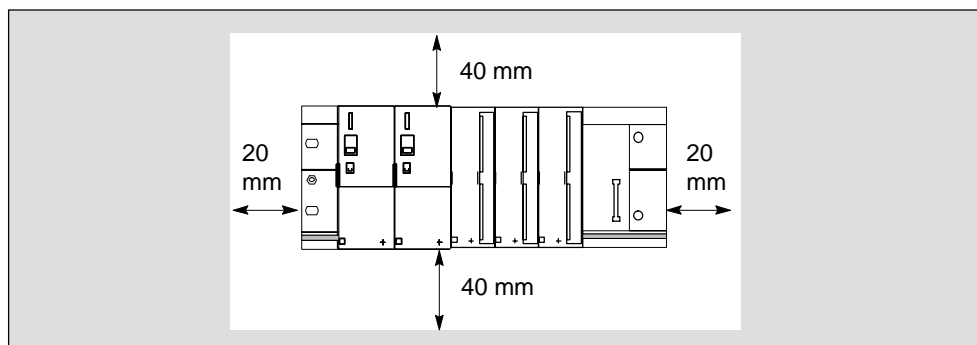

Figure 3-1 Clearances for the Y-Connection on a Mounting Rack
Figure 3-1 shows you the clearances to nearby cable ducts, apparatus, cabinet walls etc. for the Y-connection.
1. Choose a position for the rail that leaves enough room to install it properly and enough space to cope with the temperature rise of the modules (leave at least 40 mm /1.56 in. free above and below the rail; see Figure 3-1 on page 3-2)